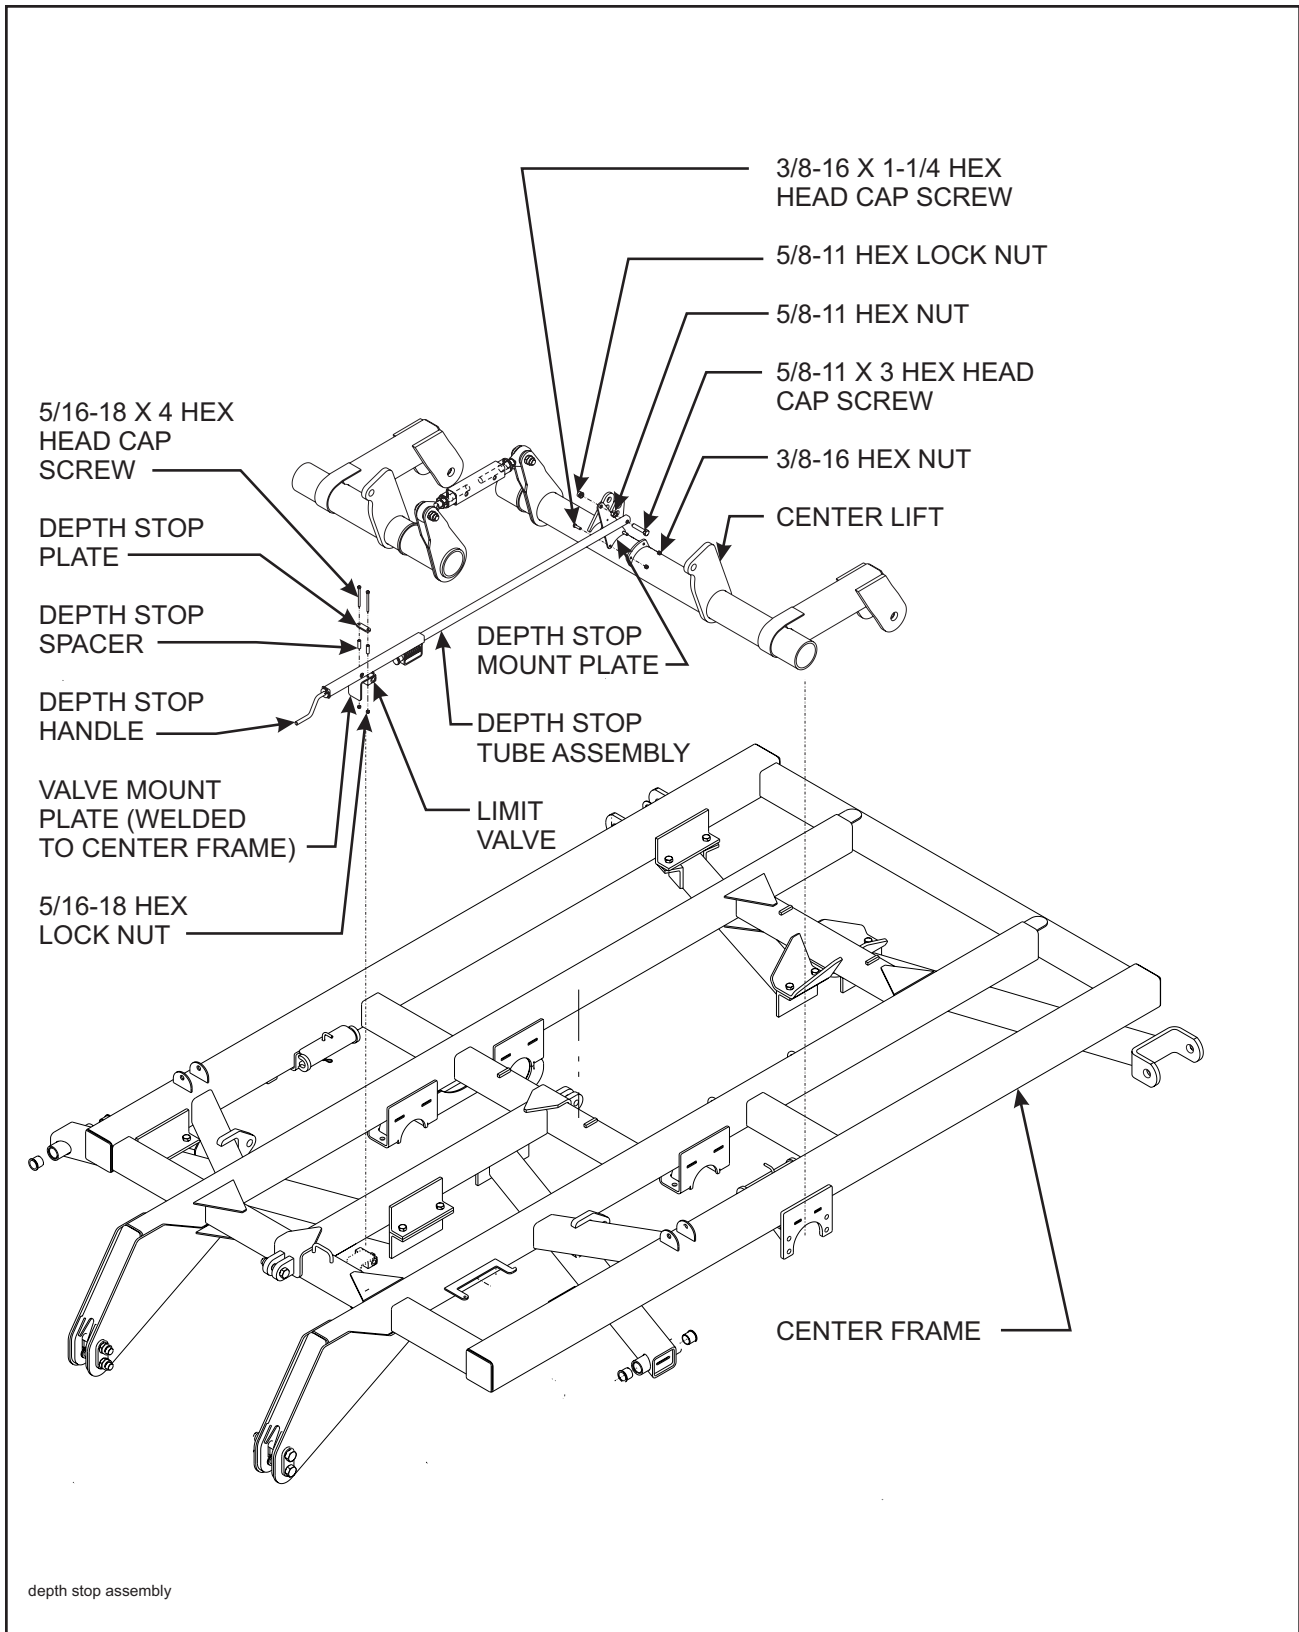

Figure 3-5 Hydraulic Depth Stop Assembly Installation
- 3-5.1** Lay the depth stop tube assembly on top of the center frame. Insert a 5/8-11 x 3 hex head cap screw in the rear hole of the tube assembly from the left side (**See Figure 3-5**). Install a 5/8-11 hex nut on the screw. Do not over tighten, as the depth stop must pivot on this screw. Insert the screw through the depth stop mounting plate on the center lift and secure with a 5/8-11 hex lock nut.